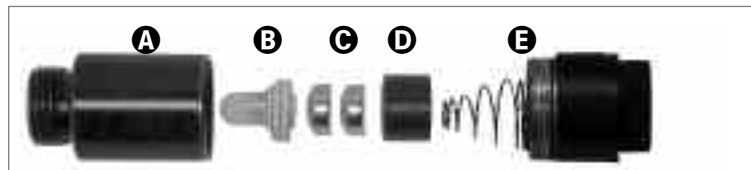

Fig. 13b: Reticle LED assembly: (A) Reticle Container; (B) LED; (C) Batteries; (D) Battery Holder; (E) Cap.
13. **Remove Plastic Strip from Reticle LED:** The polar alignment reticle LED (**30, Fig. 1d**) contains two watch batteries. The reticle's LED is shipped with a plastic strip between the two batteries to protect battery life. Unthread both the cap (**E**). Remove the plastic strip before using. Refer to the reticle assembly in **Fig. 13b** and note the orientation of the batteries. Place the batteries (**C**) into the battery holder (**D**) before inserting into the reticle container (**A**).